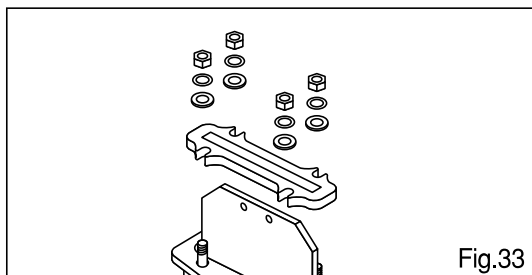

Fig.33
4. Removing gland : Remove gland bolt nut ⑧ and remove gland flange ③. (Fig.33)